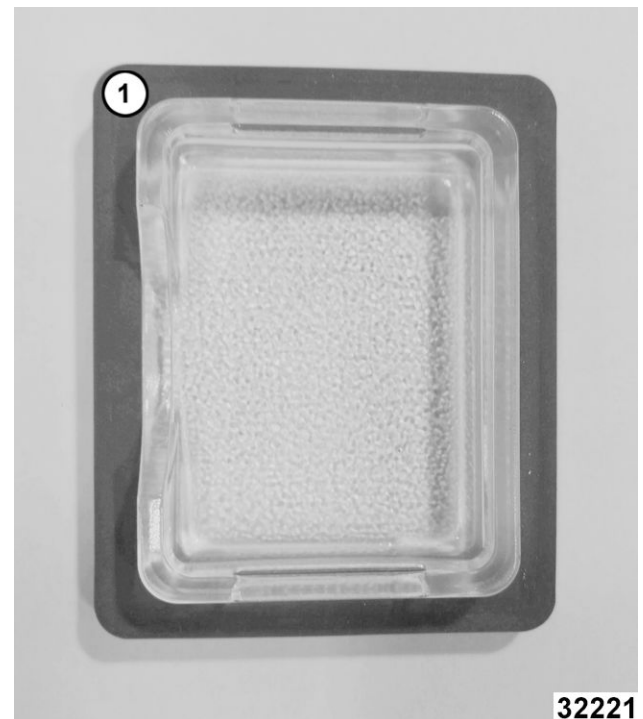

Fig. 65
**NOTE:** Verify gasket (1, Fig. 65) is flat on lamp cover and not damaged.